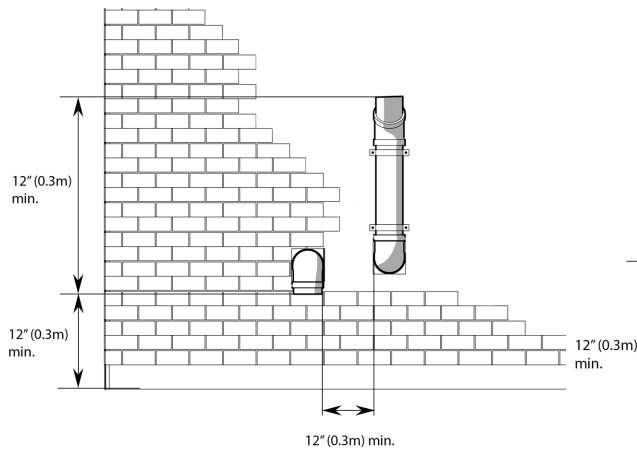
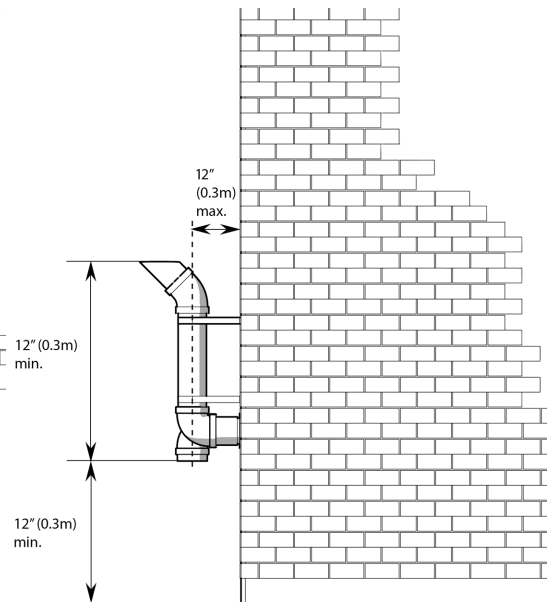
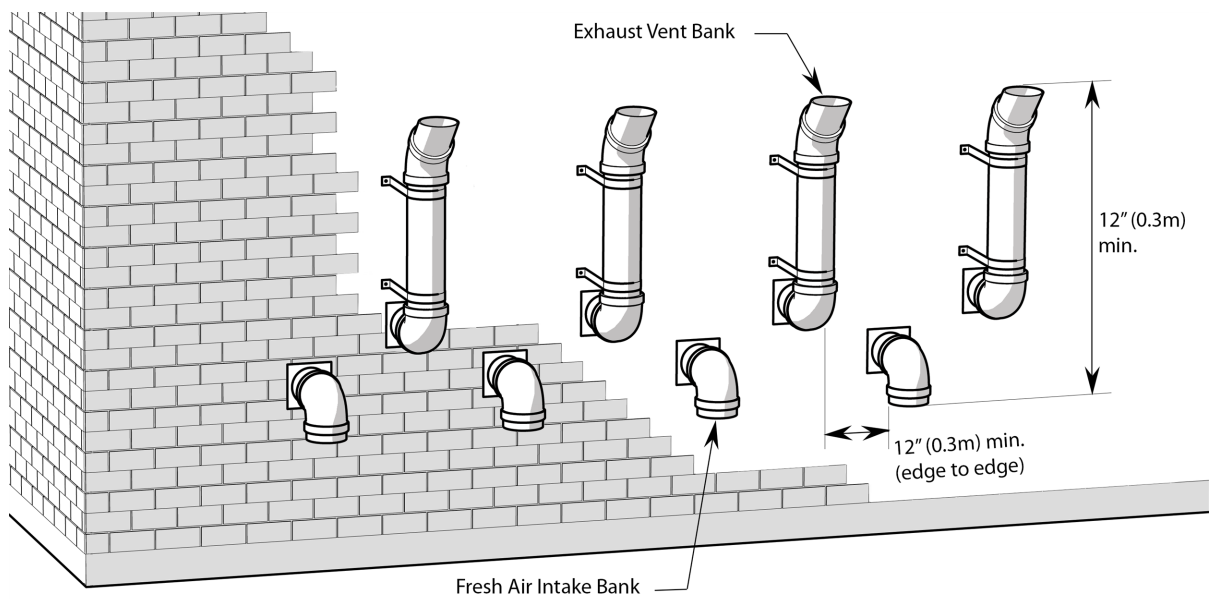
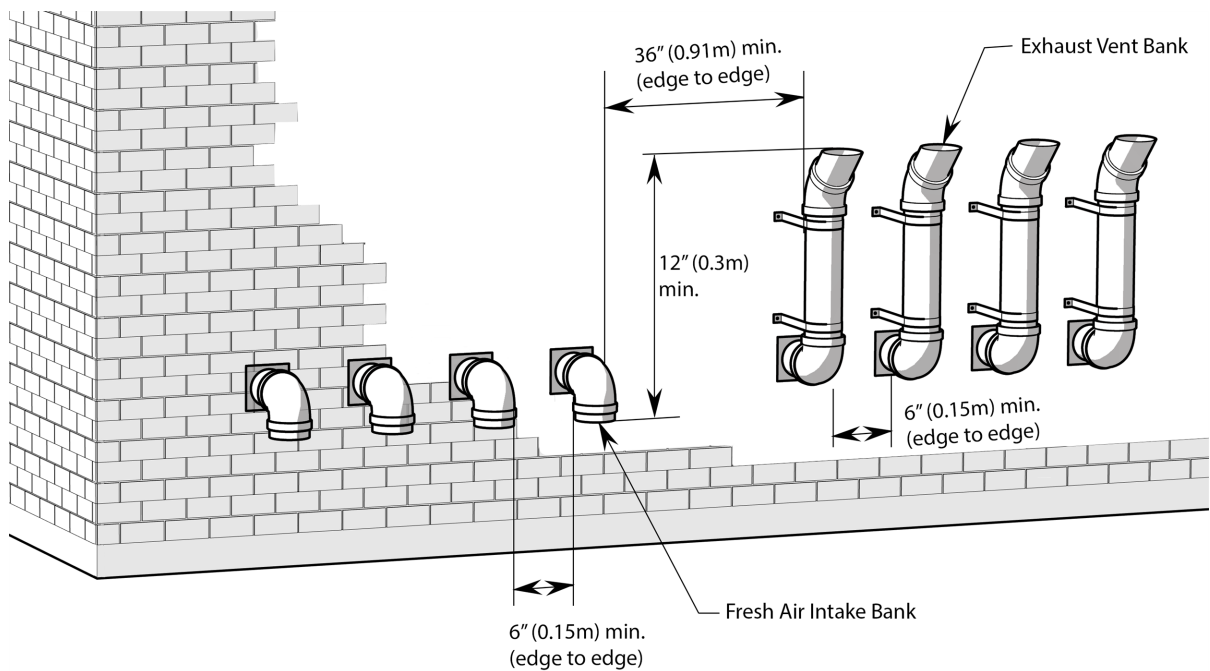

Figure 17 Vent termination clearance
Figure 18 Vent termination clearances
Figure 19 Sidewall vent termination configuration option 1
Figure 20 Sidewall vent termination configuration option 2
Important!: Maintain at least the minimum separation of exhaust vent termination from boiler intake air as illustrated in Figure 17, Figure 18, Figure 19 and Figure 20. Failure to do so can result in a dangerous situation where exhaust gases are re-ingested with combustion air. Damage to the boiler can result from a failure to maintain these separations. Do not use proprietary InnoFlue or PolyPro PPs terminals without specific approval from IBC.
- » (Optionally) Raise the elevation of both terminations in "periscope style" after passing through the wall, then to gain the required clearance configure as shown in Figure 17 , Figure 18 , and Figure 19 .
- » Use a 45° elbow on the exhaust termination to launch the plume up and off the sidewall (for protection of wall). A short piece of venting cut at 45° gives a horizontal termination protected from wind loads (see Figure 17 , Figure 18 , and Figure 19).